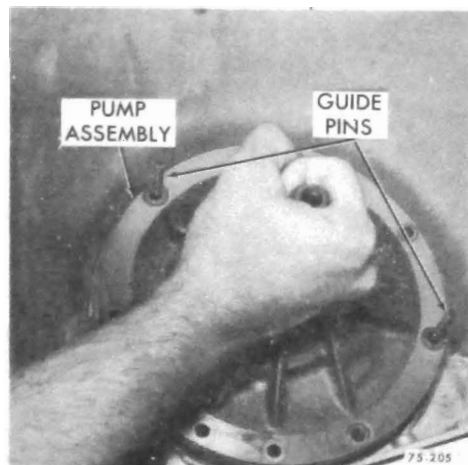

Figure 75-266
2. Install guide pins into case. See Figure 75-266.